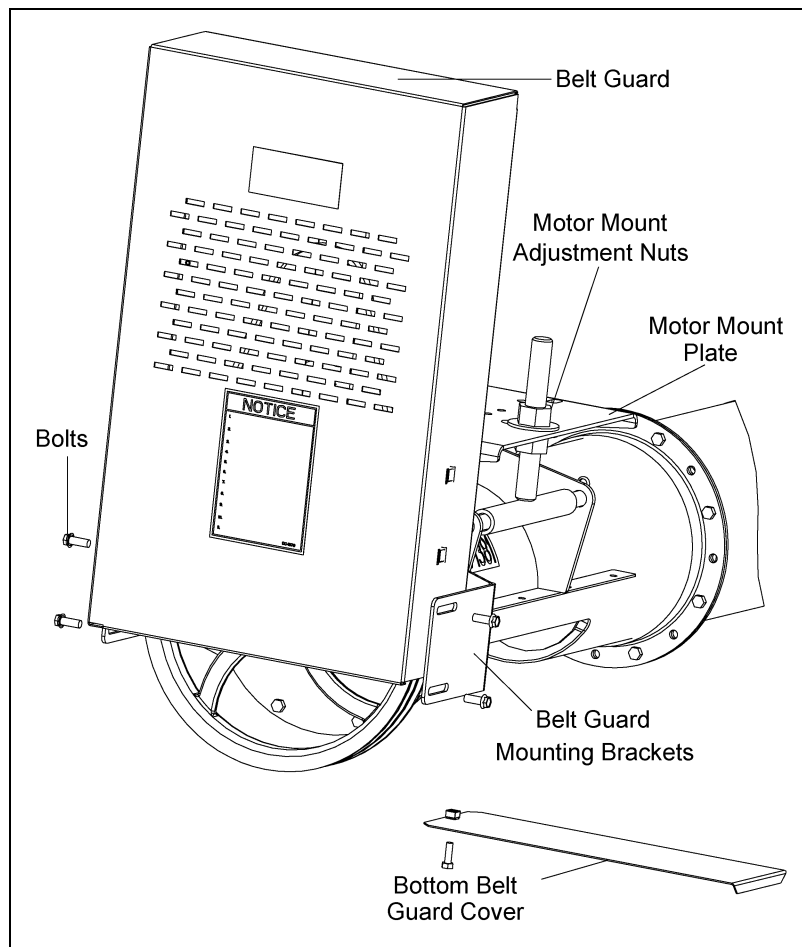

Figure 4Q
- C. Align the motor shaft and the Flight Drive Shaft in the Belt Guard's slot, making sure that the Belt Guard DOES NOT contact either pulley, and tighten down the Belt Guard Mounting Brackets to the Bearing Plate. (See Figure 4Q)